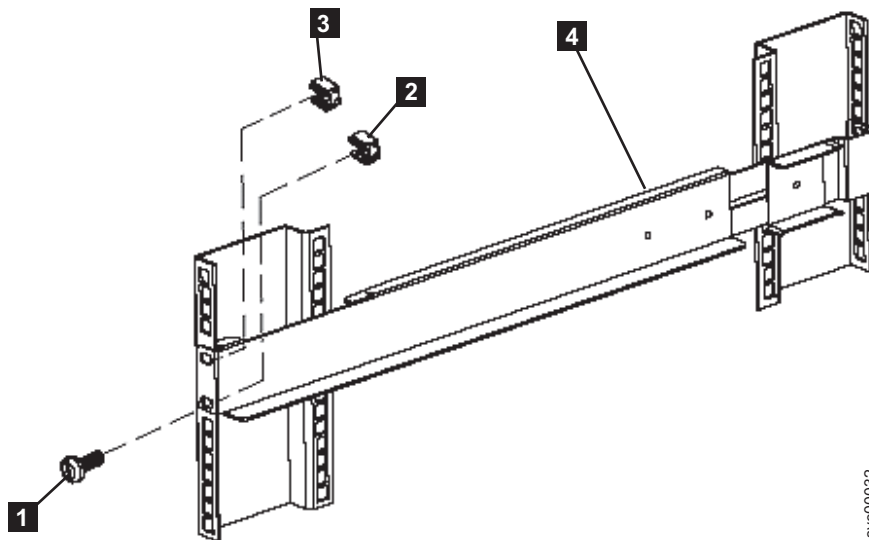

Figure 134. Securing the front rail on the 2145 UPS-1U
7. Attach only the bottom hole of the rail to the front of the rack with one M6 × 10 screw and one clip nut (see **1** in Figure 134).